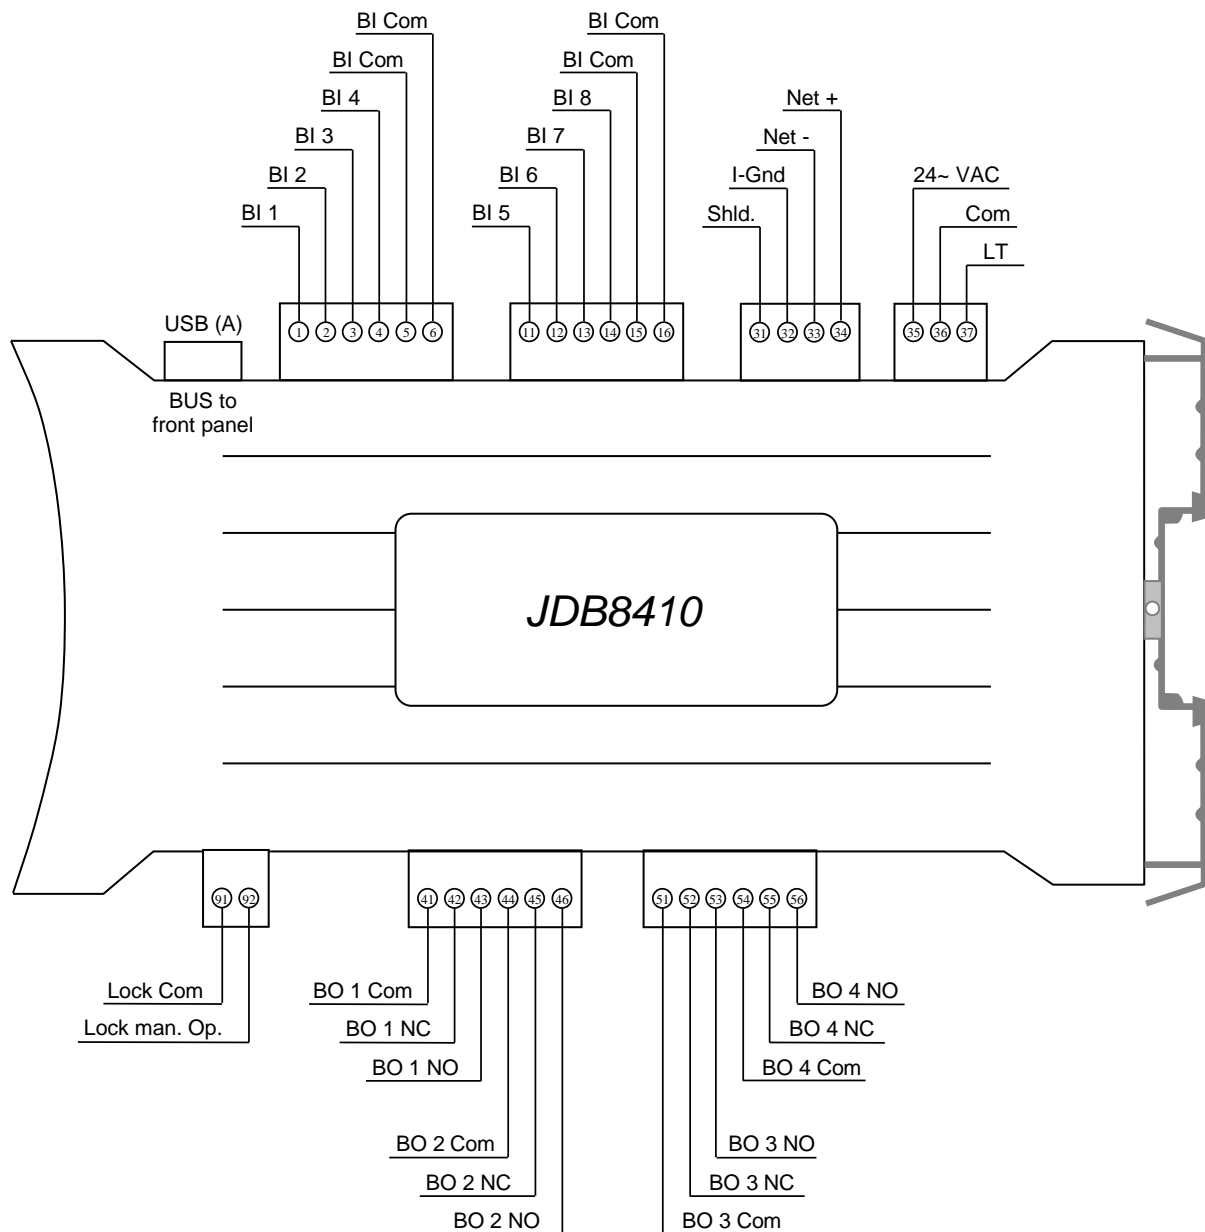

Figure 1: JDB8410 Module Wiring Interface
1. Terminate wiring per engineering drawings (see Figure 1).